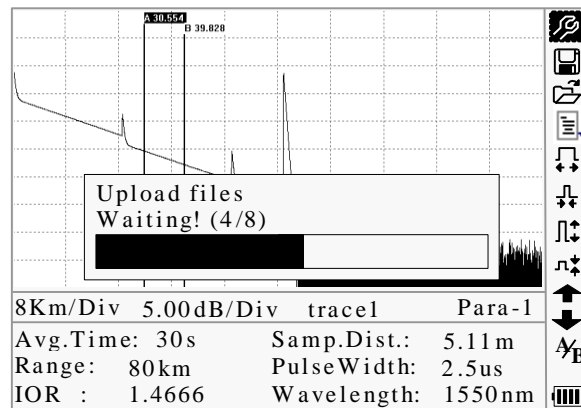

Figure4.1.
4. Power on the instrument, and run MTP_Suite software. Under menu “file”, select “Upload trace file...”, interface will be as in Figure4.1, choose communication port(USB/RS232), and click “OK”, choose the saved position of traces, and then start uploading data.